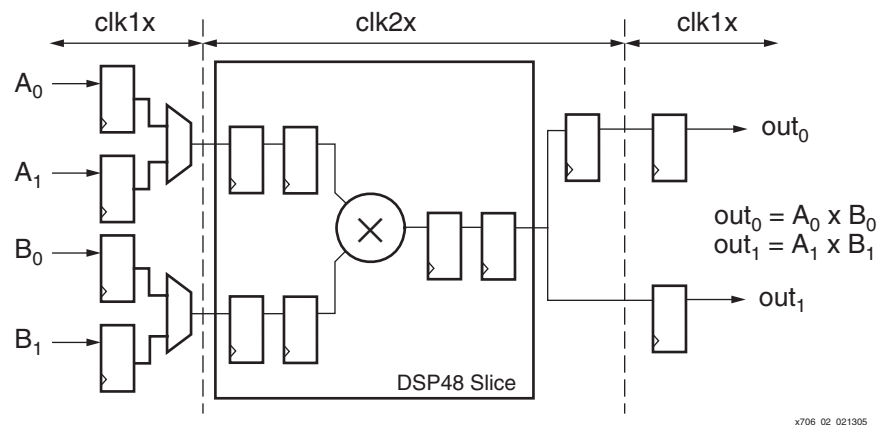

Figure 2: Two Stream Multiply Through a DSP48 Slice
There are several configuration options for implementing this functionality. Figure 2 shows a straightforward implementation.
In Figure 2, stream 0 consists of A_0 and B_0 inputs. They are multiplied together and output as out_0 . Similarly, stream 1 consists of inputs A_1 and B_1 multiplied together and output as out_1 . There are two clock domains: the $clk1x$ domain, at the nominal data stream frequency, and the $clk2x$ domain, at twice the nominal frequency. Figure 2 shows two registers after the multiplier. The second is the accumulation register, even though accumulation is not used in this configuration. The register, however, is still required to achieve the full, pipelined performance. There are two sets of registers on the inputs of the DSP to make the total delay through the DSP48 slice an even number (4), providing easier alignment of the output data with $clk1x$. These registers are *free* since they are built into the DSP48 slice, and using them reduces the need for alignment registers external to the DSP48 slice. The extra pipeline register on out_0 compensates for taking stream 0 into the DSP one $clk2x$ cycle before stream 1. As shown in the